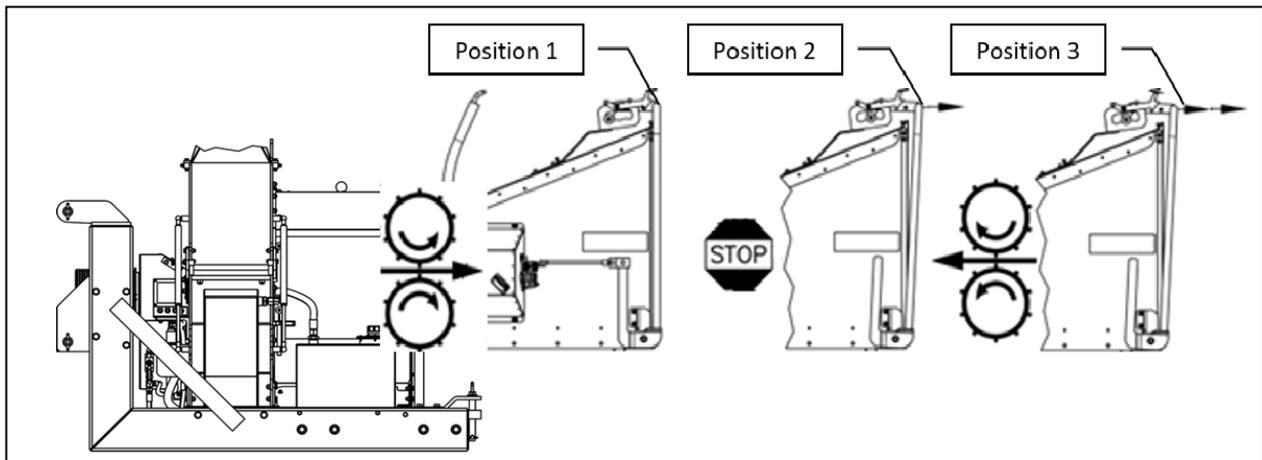

Figure 3: Control handle positions
The 3 positions are described in Figure 3.
When starting the chipper, make sure that the feed roller(s) rotate correctly in relation to the position of the control handle (see Figure 3). If this is not the case, check that the hydraulic hoses are correctly installed. A description of this can be found in Section 6.14.
7. Move the control handle to position 3 (see Figure 3).